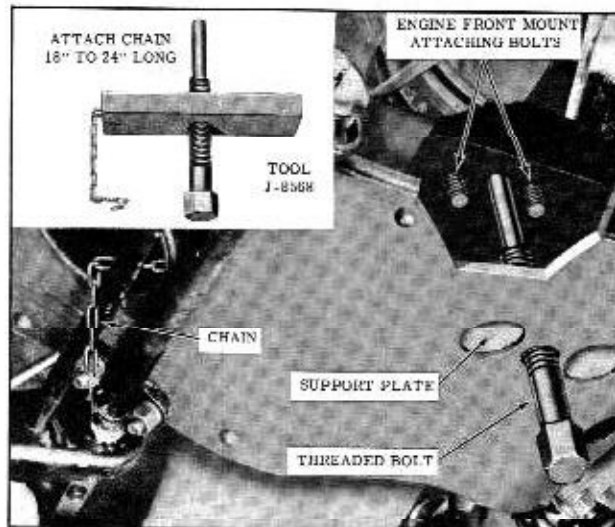

Fig. 8-21 Raising Front Of Engine
NOTE: Attach a chain 18 to 24 inches long to Tool J-8568 to aid in positioning the Tool in and out of the front cross member. (Inset, Fig. 8-21)
3. Insert the threaded bolt into the support plate. Rotate the threaded bolt until it contacts the engine front mount. (Fig. 8-21). Raise engine until proper clearance is obtained.